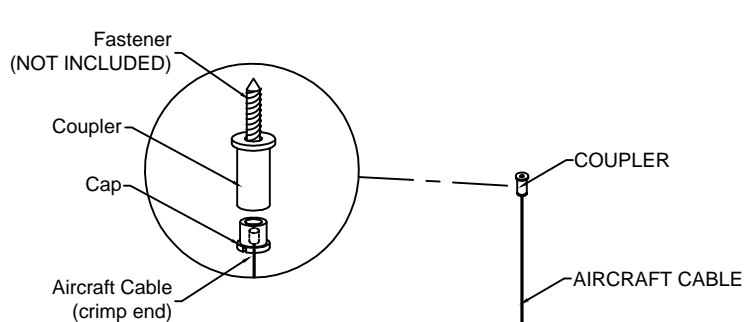

Figure 2
2. Pass the aircraft cables through the caps - see Figure 2